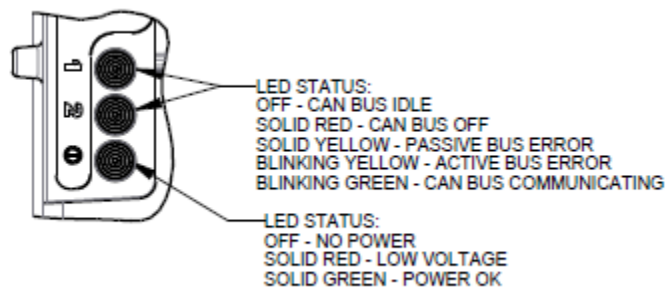

Figure 15. LED display
4. System is ready to be powered up and configured. Figure 15. shows the diagnostic LED's present on the control module. These will be helpful during setup and operation to verify operation or to troubleshoot problems.